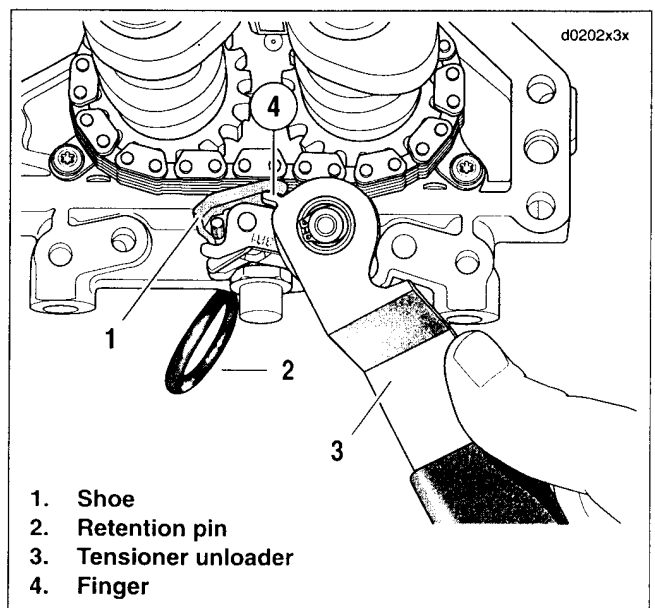

Figure 3-132. Retract Secondary Cam Chain Tensioner
1. See Figure 3-132. Place cup of CAM CHAIN TENSIONER UNLOADER (Part No. HD-42313) (3) over spring coil of secondary cam chain tensioner positioning finger (4) on tool between tensioner and shoe (1).
2. Rotate tool in a counterclockwise direction inserting retention pin (2) through hole in boss on **primary cam chain side** of cam support plate. Pin engages hooks on tensioner to hold it in the retracted position. For best results, place cam support plate in a vise using brass jaw inserts to prevent casting damage.